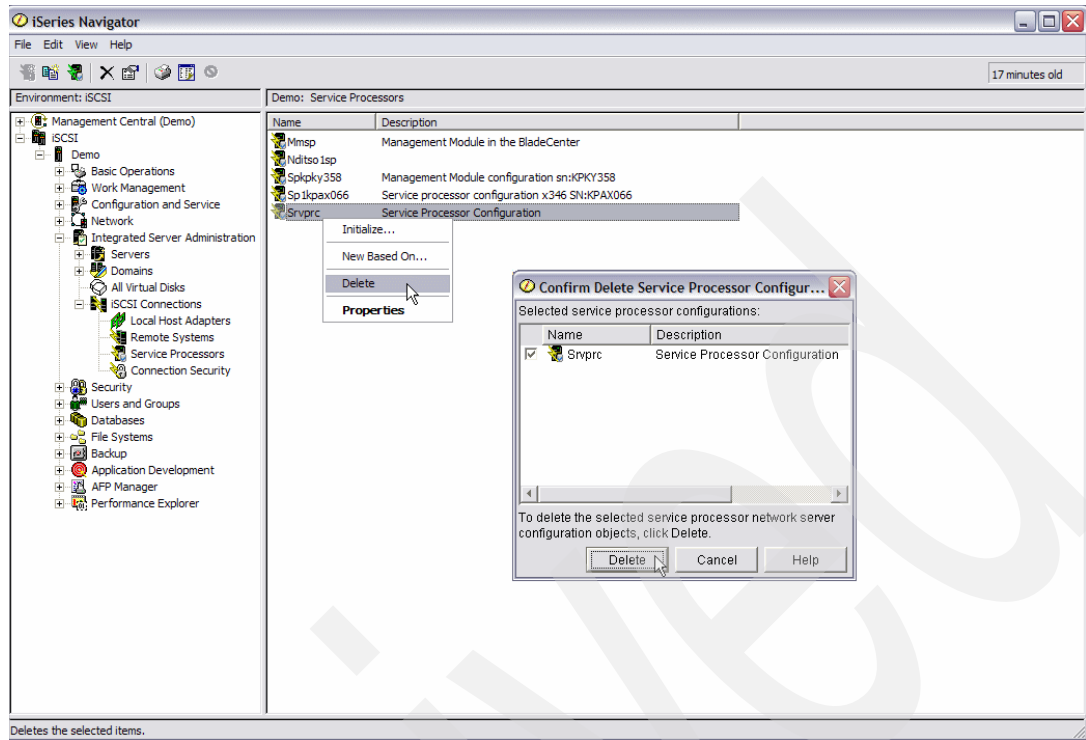

Figure 6-33 Delete Service processor configuration
- c. On the Confirm Delete Service Processor configuration window, select **Delete** (Figure 6-33 on page 181).